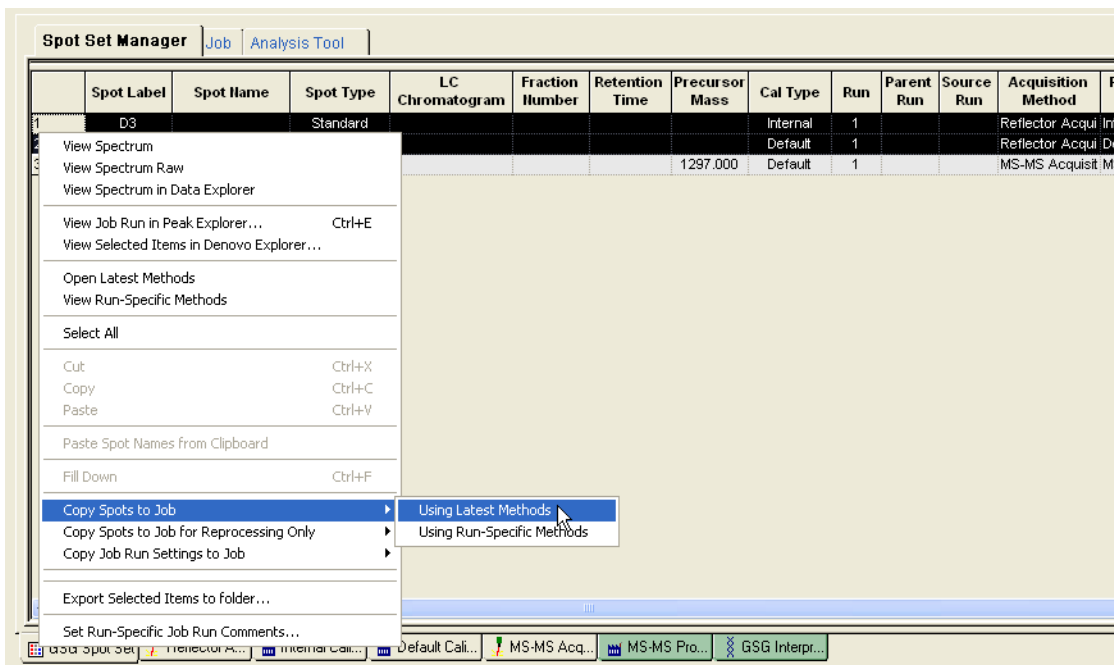

Figure 9-2 Copying Spots to a Spot Set Job
2. Right-click either of the selected rows, then select **Copy Spots to Job > Using Latest Methods** (Figure 9-2).